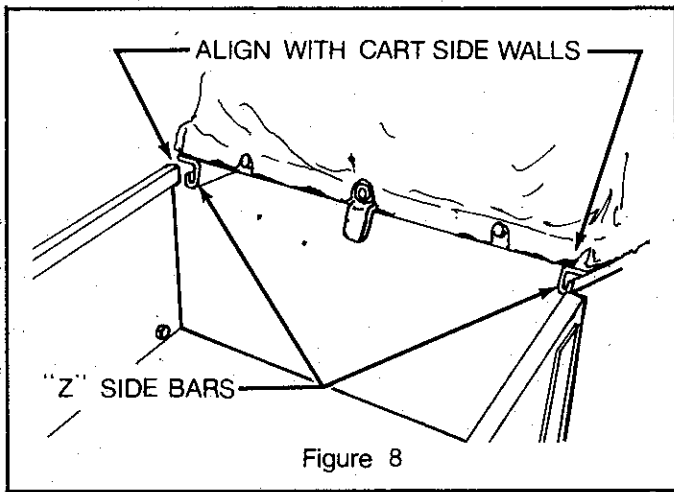

Figure 8
3. Unfold the canvas and frame assembly so that the front and rear uprights are in a vertical position. Align the side "Z" bars with the cart side wall upper edges and slide the assembly forward onto the cart (Figure 8). Be sure that the front of the cover frame is toward the front of the cart. Turn the front catch down over the front edge of the cart.